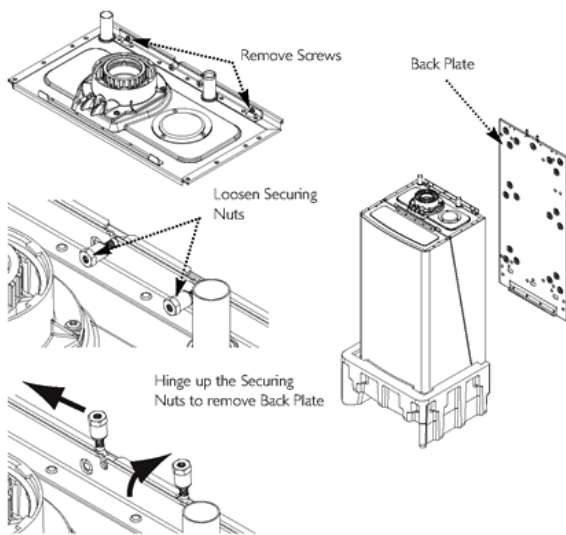

Fig. 24
- c) Remove the back plate from the appliance by removing the 2 securing screws and undo the 2 fixing nuts on the top of the panel using a 10mm spanner (Fig. 24).